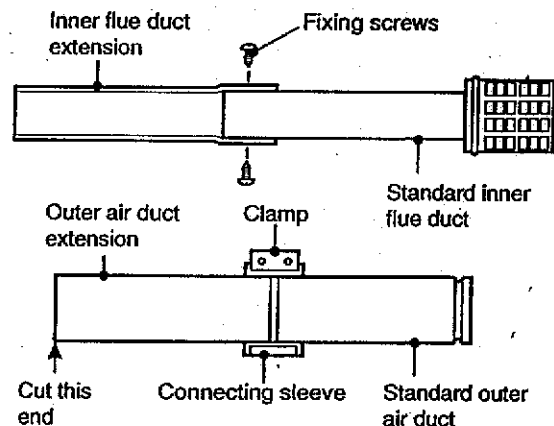

Fig. 12
3.5.1 FIT A FLUE EXTENSION TO A HORIZONTAL FLUE (See Fig. 12)